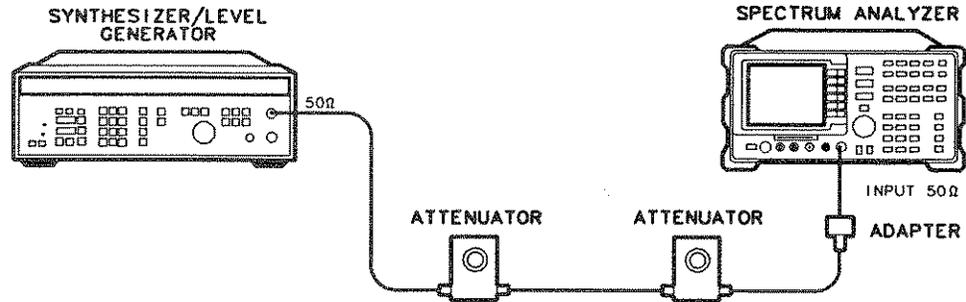

Figure 4-11. Input Attenuator Accuracy Test Setup
1. Connect the equipment as shown in Figure 4-11. *Option 026:* Use the BNC to SMA and 3.5 mm adapters instead of the Type N to BNC adapter. Set the HP 355D to 20 dB attenuation and the HP 355C to 0 dB attenuation.